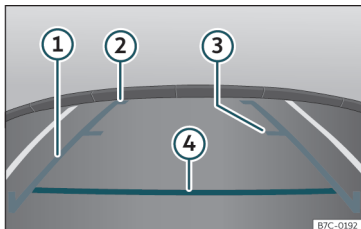

Fig. 248 Display on the Easy Connect system screen: guide lines.
- Vehicle load modifies the representation of the guide lines »» Fig. 248. The width represented by the lines decreases with vehicle load. Pay special attention to the surroundings when the inside of the vehicle of the luggage compartment are loaded.
» **Fig. 248**